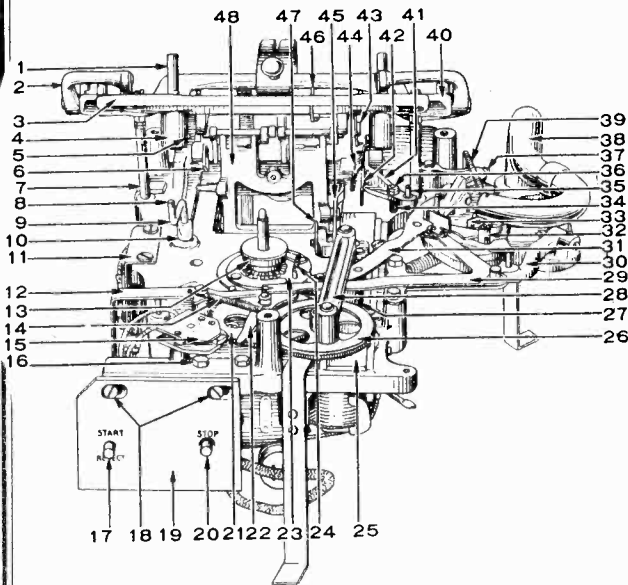

Fig. 1—Automatic Mechanism with Motor Board Removed
- d. Turn the link pin adjuster until the rollers of the lift lever mechanism 48, Fig. 1, are in the slots pressing against the extreme end of their track (cam).